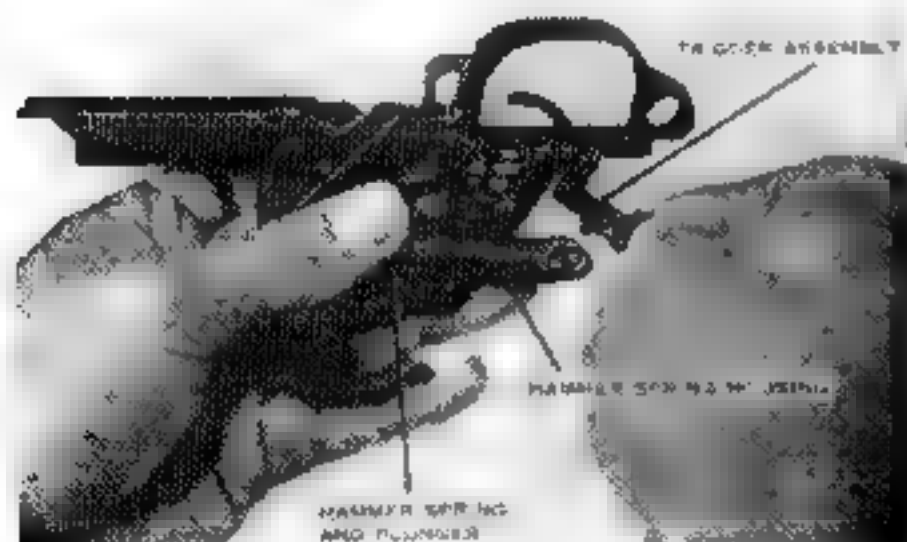

Fig. 73. Removing trigger assembly, hammer spring housing, hammer spring, and hammer spring plunger.
(2) Holding the trigger housing group in your left hand as shown in Fig 73, remove the trigger assembly, hammer spring housing, hammer spring and hammer spring plunger.